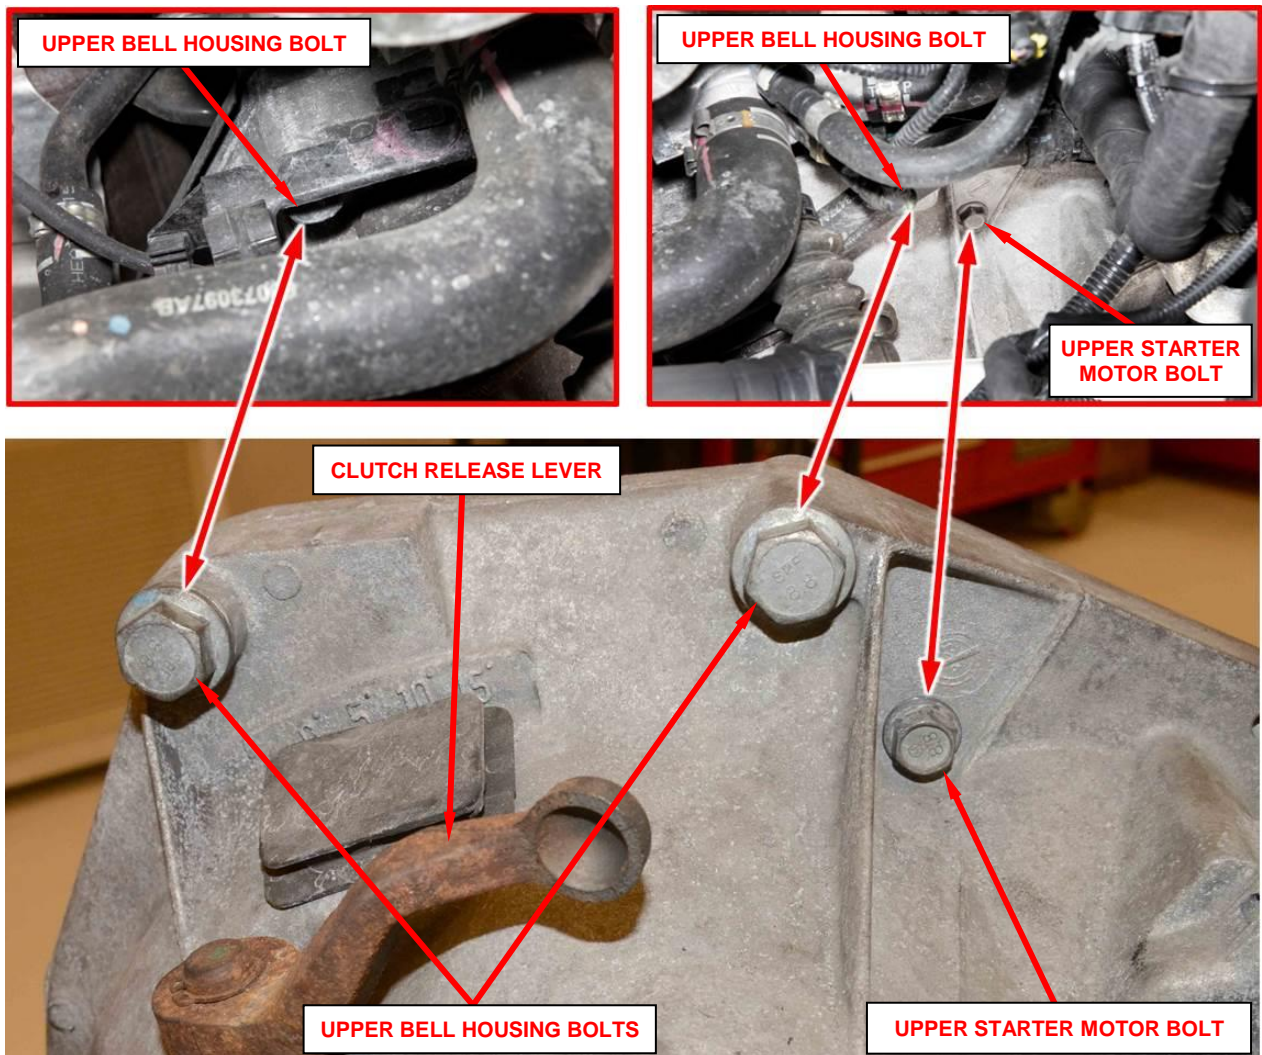

Figure 26 – Upper Bell Housing Bolts And Upper Starter Bolt
13. Remove the two upper bell housing bolts (Figure 26).
14. Remove the upper starter motor bolt (Figure 26).